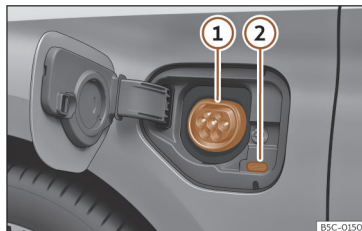

Fig. 207 Behind the battery charging cover on the front left-hand side: Charging socket
>>> Fig. 207
- With the vehicle unlocked, the battery charging cover opens when it is pressed >>> **Fig. 207**.